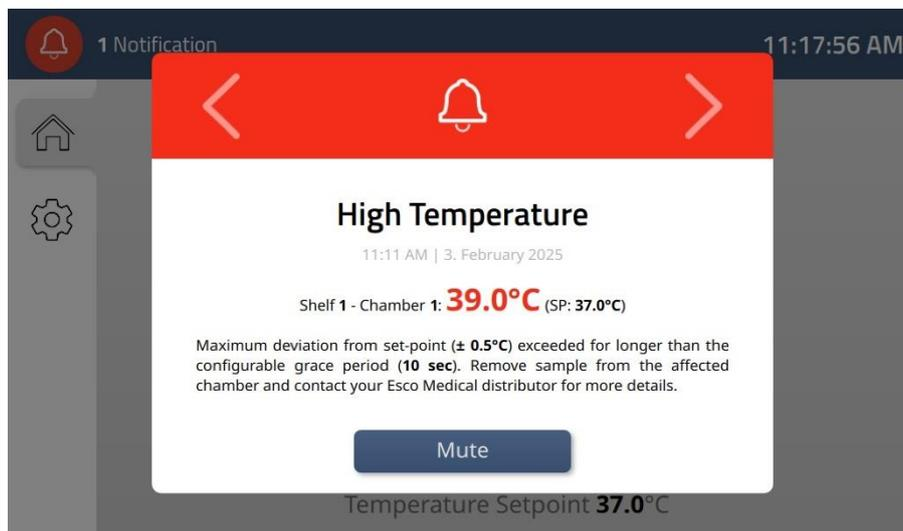
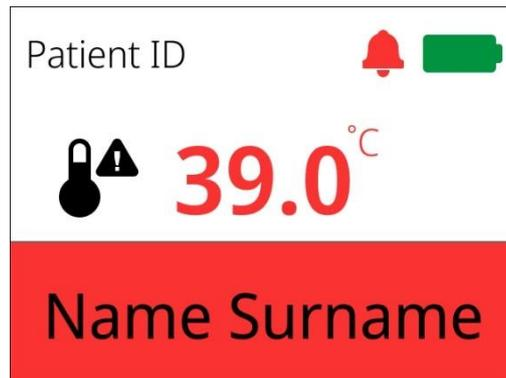

Figure 15.6 High-temperature alarm indication on the docking station's display panel
Figure 15.8 High-temperature alarm indication on the undocked chamber's display
Should the alarm be triggered while the chamber is connected to a docking station, the docking station display will be the primary communicator (see Figures 15.6 and 15.7), with the chamber display aiding in bringing attention to itself (see Figures 15.8 and 15.9).
1. **Undocked** – the alarm icon is present next to the temperature value, where the bottom bar and the temperature value itself are highlighted in red (Figure 15.8).